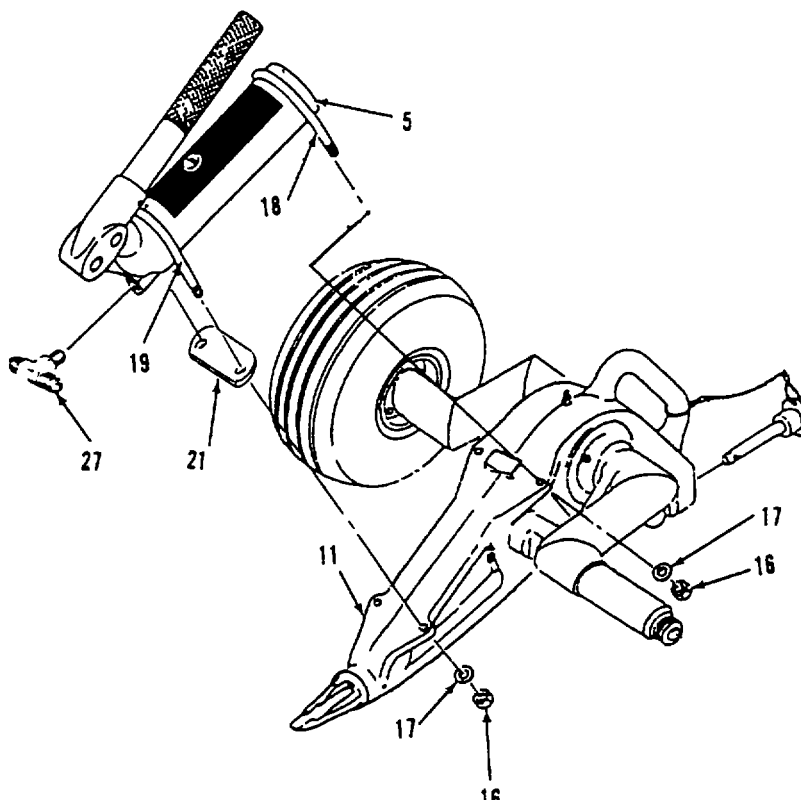

Figure 3-13. Hydraulic Pump, Part No. BU0953B
The Hydraulic Pump Assembly is group number 0101 in the MAC. This procedure is applicable to Ground Handling Wheels Assembly, Model 214-706-104-101. Two types of hydraulic pump may be installed on this model of the Ground Handling Wheels Assembly. The older version pump has part number BU0953B and is not repairable. The new version pump has part number 61780 and is repairable. An older version pump that is defective, will be replaced with the new version upon failure. An older version pump, that is removed as part of a disassembly procedure, will be reinstalled if not defective. The numbers in parenthesis refer to figure 3-13 or 3-14.
3. Disconnect both hose assemblies from tee fitting (27) installed in pump metering valve, and drain fluid into drip pan.
4. Remove tee fitting (27) from reducer/metering valve in pump, and retain for installation in replacement pump.
5. Refer to figure 3-13 and remove pump (5), with part number BU0953B, as follows:
- a. Remove four nuts (16) and four washers (17) from the U-bolts (18 & 19).
- b. Remove two U-bolts (18 & 19) and plate spacer (21).
- c. Grasp pump (5) and lift from cradle assembly (11).
2. Refer to figure 3-13 and Install the Hydraulic Pump (5), with part number BU09538, using following steps.
- a. Position hydraulic pump (5) on cradle assembly (11) until it is centered over four mounting holes in cradle.
- b. Install spacer (21) under pump at front, install U-bolt (19) over pump body (5) and insert through holes in spacer and cradle; attach U-bolt with washers (17) and nuts (16).
- c. Install U-bolt (18) over pump body (5) and Insert through holes in cradle; attach U-bolt with washers (17) and nuts (16).
- d. Install tee fitting (27), wrapped with Teflon Tape (item 8, Appendix D), in reducer/metering valve in pump.
- e. Connect hose assemblies to both sides of tee fitting (27), but do not tighten completely at this time.
Refer to figure 3-13 or 3-14 and perform fill and bleed procedure of hydraulic system as follows: